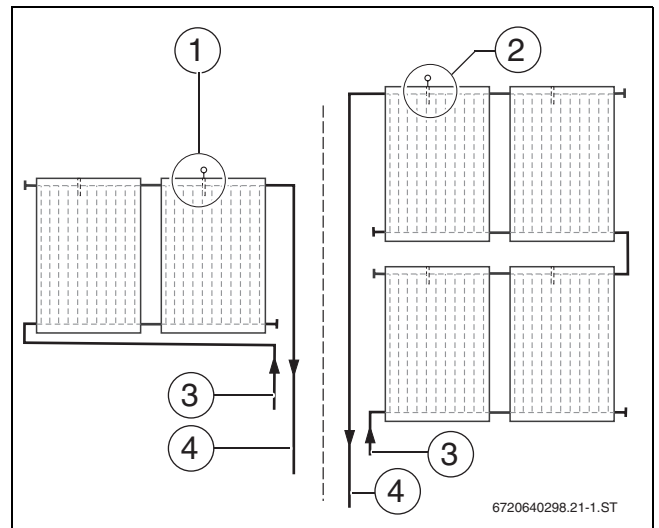

Fig. 49 Position of the collector sensor
- ▶ Fit the collector sensor next to the connected flow into the collector (→ Fig. 49).